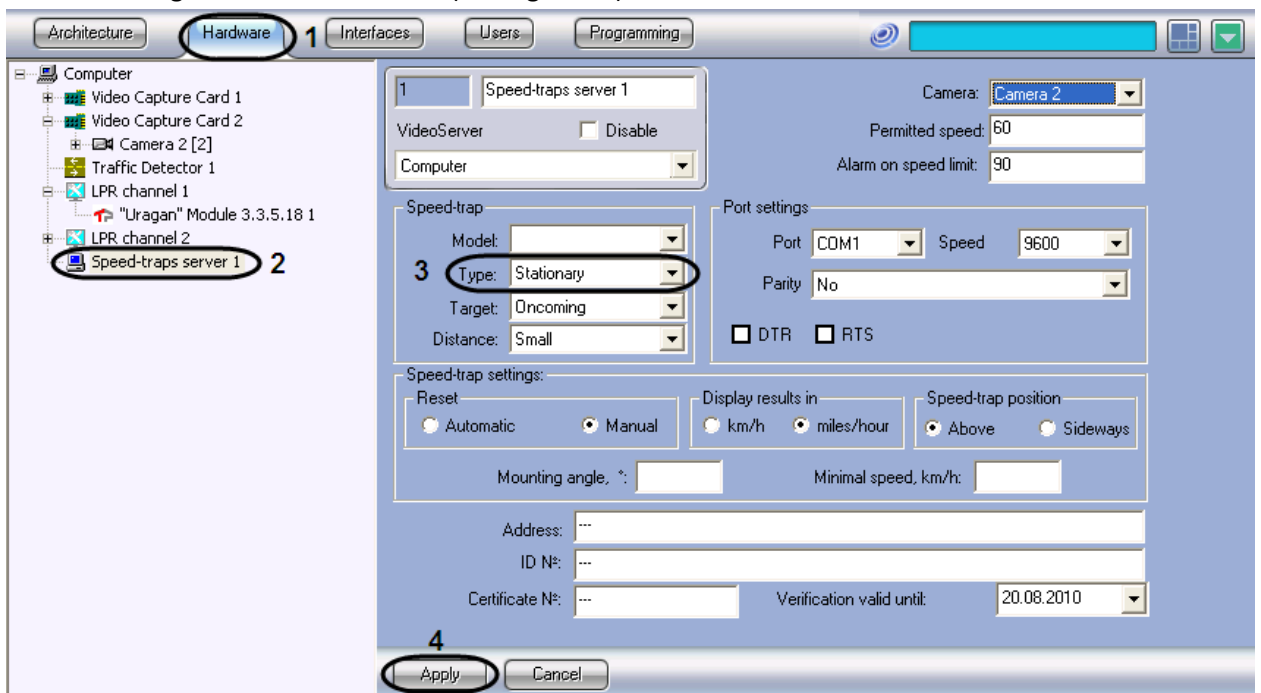

Fig. 7.3-5 Selecting the speed-trap usage option
2. In the object tree on the left side of the Hardware tab, select the Speed-trap server object representing the Radar module to be set up. The settings panel of the selected object will open on the right side of the window (see Fig. 7.3-5).